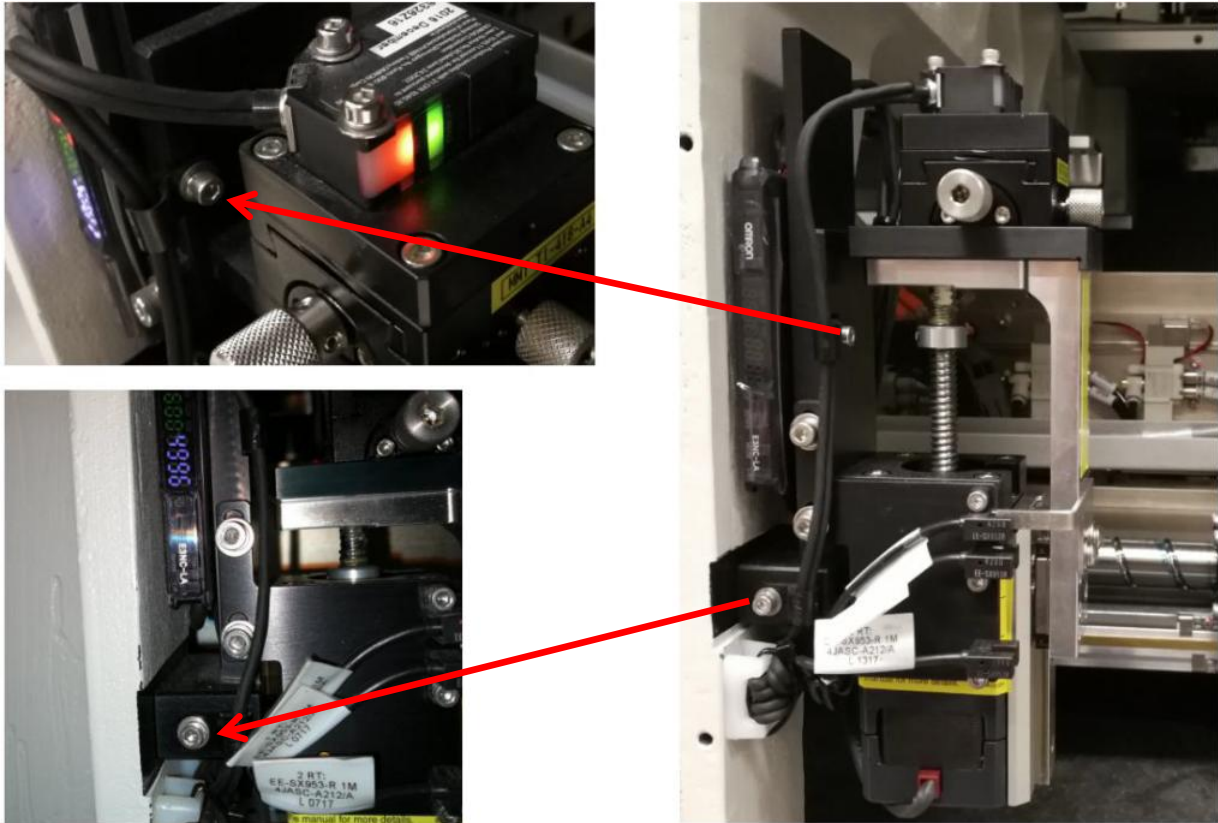

Figure 13
15. Slot Filter Height Sensor Cable into 2 x Cable Clamp. Tighten 2 x Screws as below Figure 13.